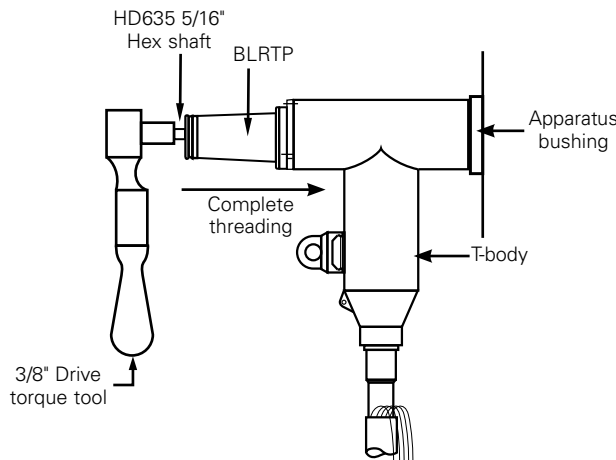

Figure 28. Line illustration of tightening termination.
- Using a 3/8" drive torque tool and HD635 (5/16" hex shaft), complete threading clockwise until tight. Torque to 55 ft-lbs. See Figure 28.